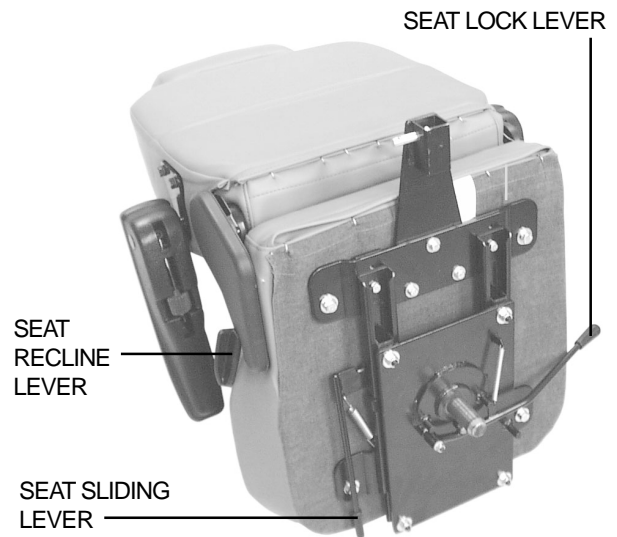

Figure 16. Seat Adjustments
You can reposition the seat forward or rearward to adjust the distance between the seat and the tiller. See figure 16.
The seat lock lever locks the seat in one of eight positions. See figure 16.
1. Pull up on the seat recline lever to unlock the seatback. See figure 16.